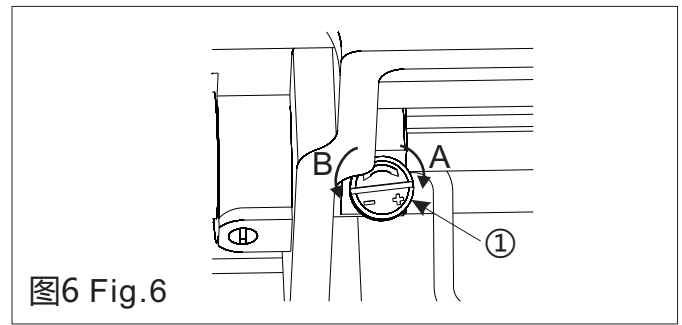
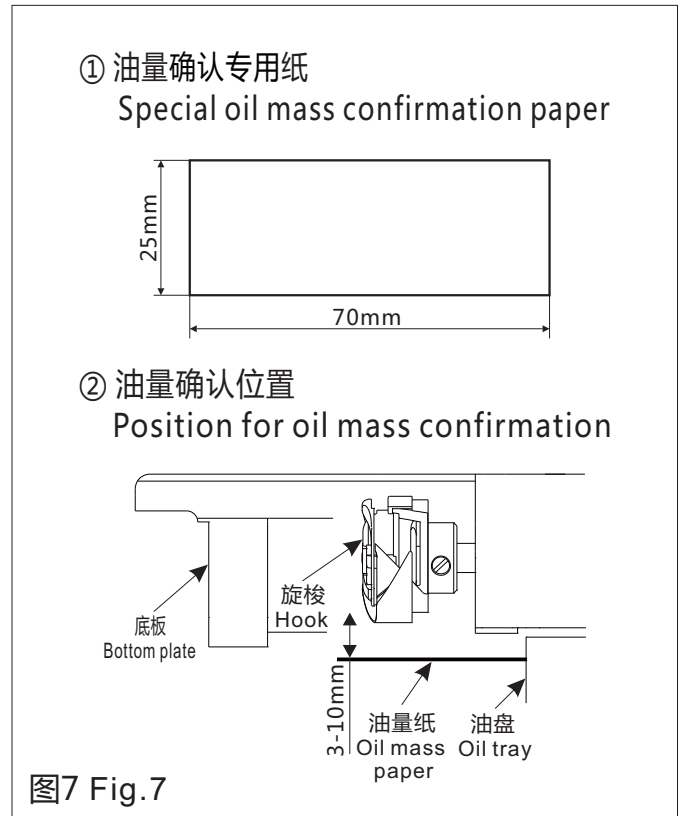
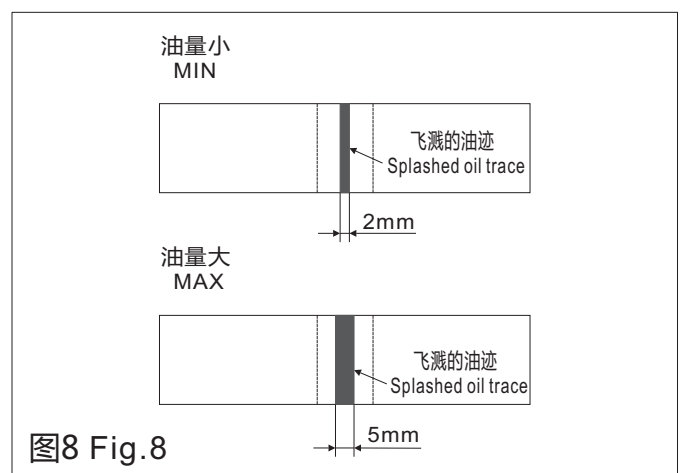

图6 Fig.6
图7 Fig.7
图8 Fig.8
## 5 旋梭油量调节 (图6、图7、图8) Oil mass Adjustment of Rotating Hook (Fig. 6, Fig. 7, Fig. 8)
2) 请在缝纫机转动时将油量确认专用纸插入(具体操作见图8所示)。
2) Insert the special oil mass confirmation paper when the sewing machine is rotating (detailed operations are described in Fig. 8).
1) 右图标样(见图8)根据不同的缝制工序需求进行增或减的微调整, 但应注意不要增加或减少过多。油量过少时会引起旋梭发热, 油量过多时会污染缝料。
1) The guide sample shown in the right-hand figure (see Fig. 8) may be finely adjusted (increased or reduced) as per different sewing processes; however, excessive increase or reduction shall be avoided. Too little oil mass may lead to rotating hook heating, and overmuch oil mass may lead to contamination of the sewing materials.